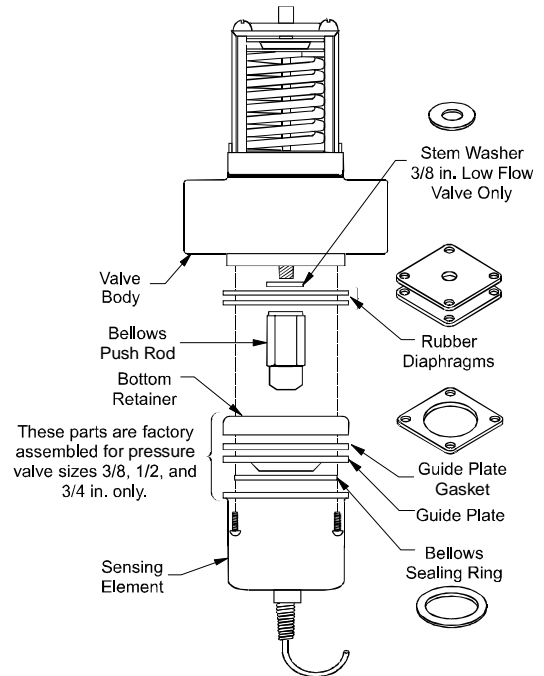

Figure 8: Guide Plate Gasket and Bellows Sealing Ring Identification
7. Remove the sensing element, bellows push rod, and diaphragms. See Figure 8.
10. On 1 in. and larger pressure valves and all temperature valves, replace the guide plate gasket and bellows sealing ring (Figure 8).